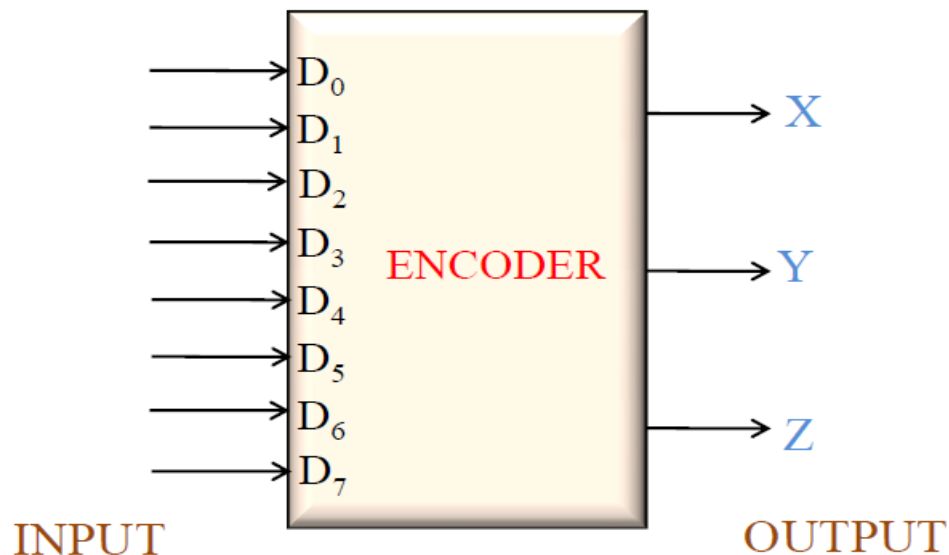

Fig. 21
- Block Diagram of Octal to Binary Encoder is shown in Fig. 21